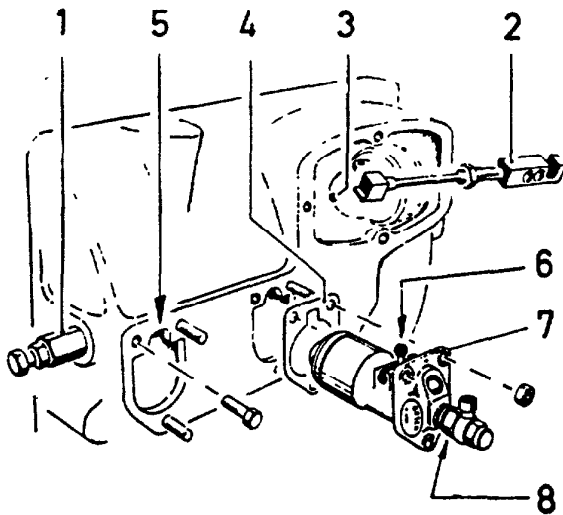

Fig 74
#### Dismantling (fig 74):
By varying the number of shims (fig 74, item 4) behind the injection pumps it is possible to advance or retard the injection timing.